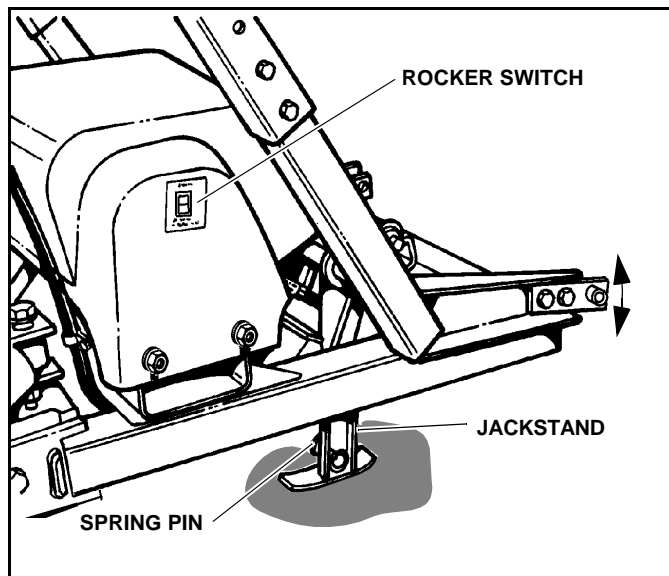

Figure 1-21
7. Raise the rear of the A-Frame (using the Rocker Switch on the pump cover) to ensure that the A-Frame is higher than the Subframe mounting points. (See Figure 1-21) The plow can then be manually moved into position for connecting the lower Hitch Pins. Move the plow manually by grasping one end of the blade and moving one side and then the other side. Again, if the plow is more than 3-4 inches from proper alignment, move the vehicle - it's easier. But remember to disconnect the electrical connections BEFORE backing away from the plow to avoid stretching and damaging the electrical Wiring Harness.
*NOTE: If the plow and vehicle are not level with each other, install one lower Hitch Pin and then, using the Rocker Switch on the pump cover, (See Figure 1-21) adjust the A-Frame height to allow installation of the second lower Hitch Pin.*
9. After the lower Hitch Pins and Lynch Pins have been installed, place the Rocker Switch in the lower position to allow the Jackstand to be raised off the ground. Then rotate the Jackstand forward and upward and latch it in the transport storage position with the Spring Pin. (See Figure 1-21)